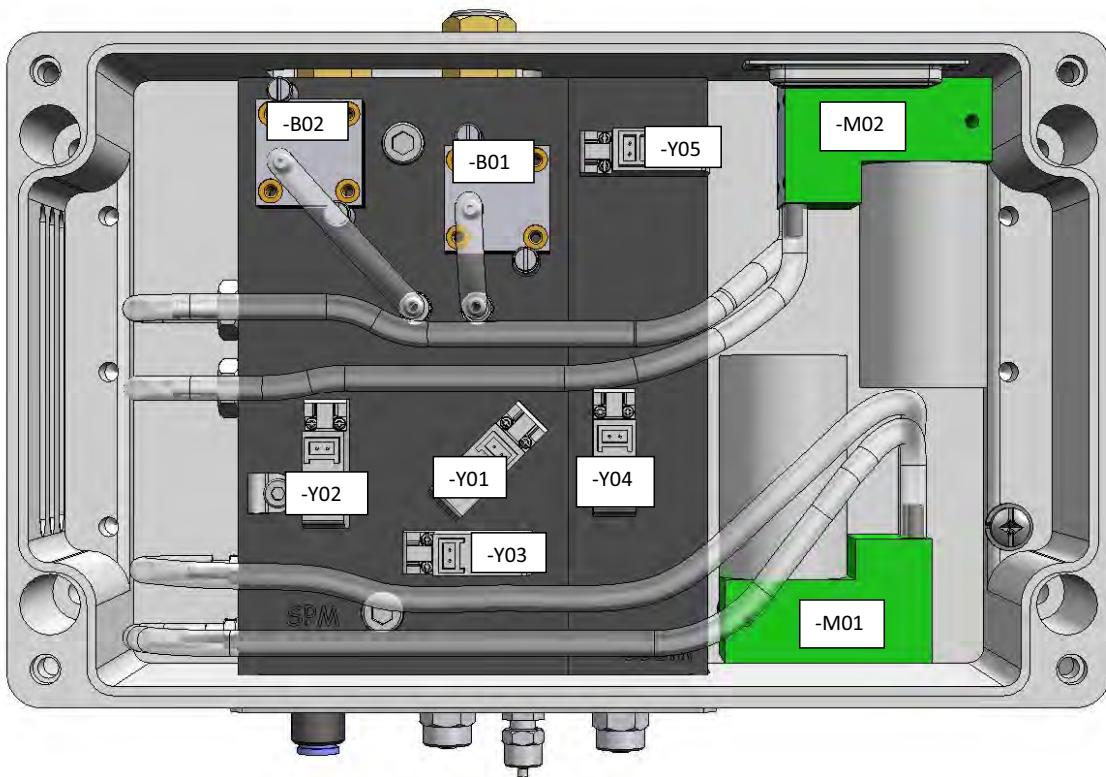

Figure 23 Replacing the Valves
Refer to Figure 23 under “Replacing the Valves” and replace the defective flow alarm switch, (-B01) or (-B02), as follows:
4. Locate the switch you want to replace. Refer to Figure 23.
10. Put the new switch in place with the vacuum port entering the centre hole. Make sure the o-ring is in place. See Figure 23 for correct orientation of the switch.
Refer to Figure 23 and replace the pump, (-M01) or (-M02), as follows:
Refer to Figure 23 and replace the defective valve, (-Y01), (-Y02), (-Y03), (-Y04), or (-Y05), as follows: